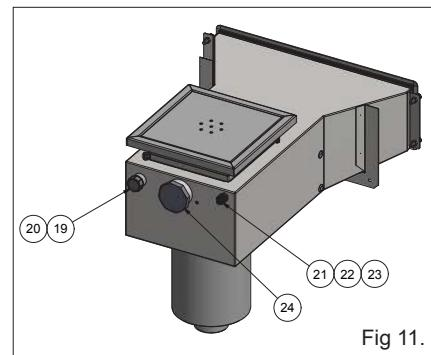

Fig 11.
5. Prior to sealing; mask the skimmer exposed flange and openings in order to avoid unsightly stains from concrete splashes. The openings in the skimmer back edge of the float switch, the overflow and refill openings can be sealed with supplied plugs, see Fig.11